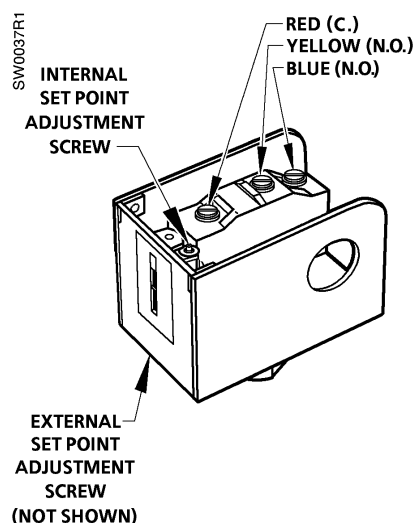

Figure 2. Interior of the Pressure Electric Switch.
- Loosen the screw on the top of the switch cover for access to the terminals. See Figure 2.
- See Figure 2.